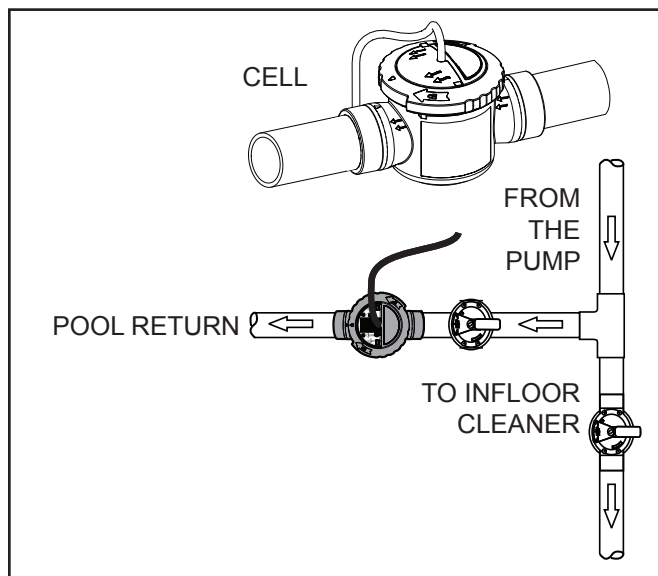

Figure 5. New Pool Plumbing for In-Floor Systems
**NOTE** Do not install the chlorinator on in-floor systems that do not have a dedicated pool return as shown in Figure 5.